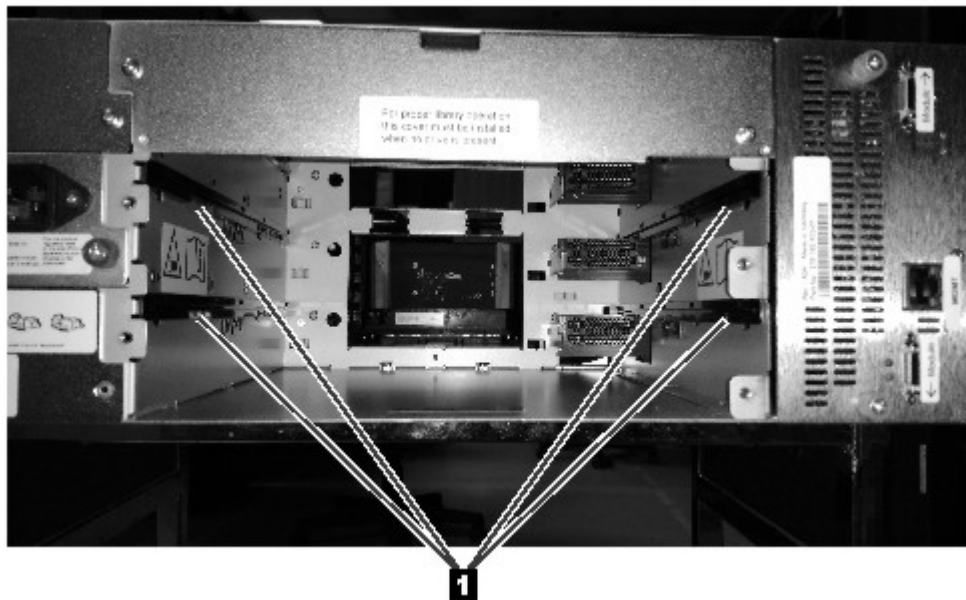

Figure 60. Alignment rails
2. Align and slowly insert the new tape drive into the drive bay along the alignment rails (**1** in Figure 60) while the drive assembly is supported. The tape drive must be flush with the back panel of the library.